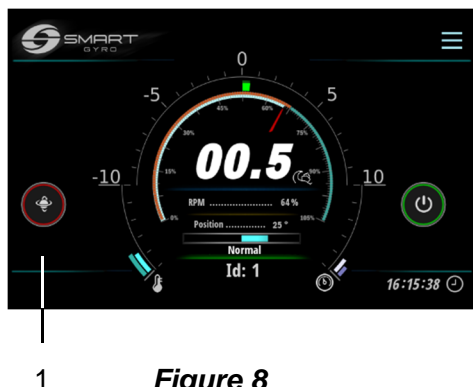

Figure 8
8. To stop the precession, press the precession toggle icon. The circle around the icon goes red, indicating that the precession is locked and the sphere cannot rotate (**Figure 8, (1)**).